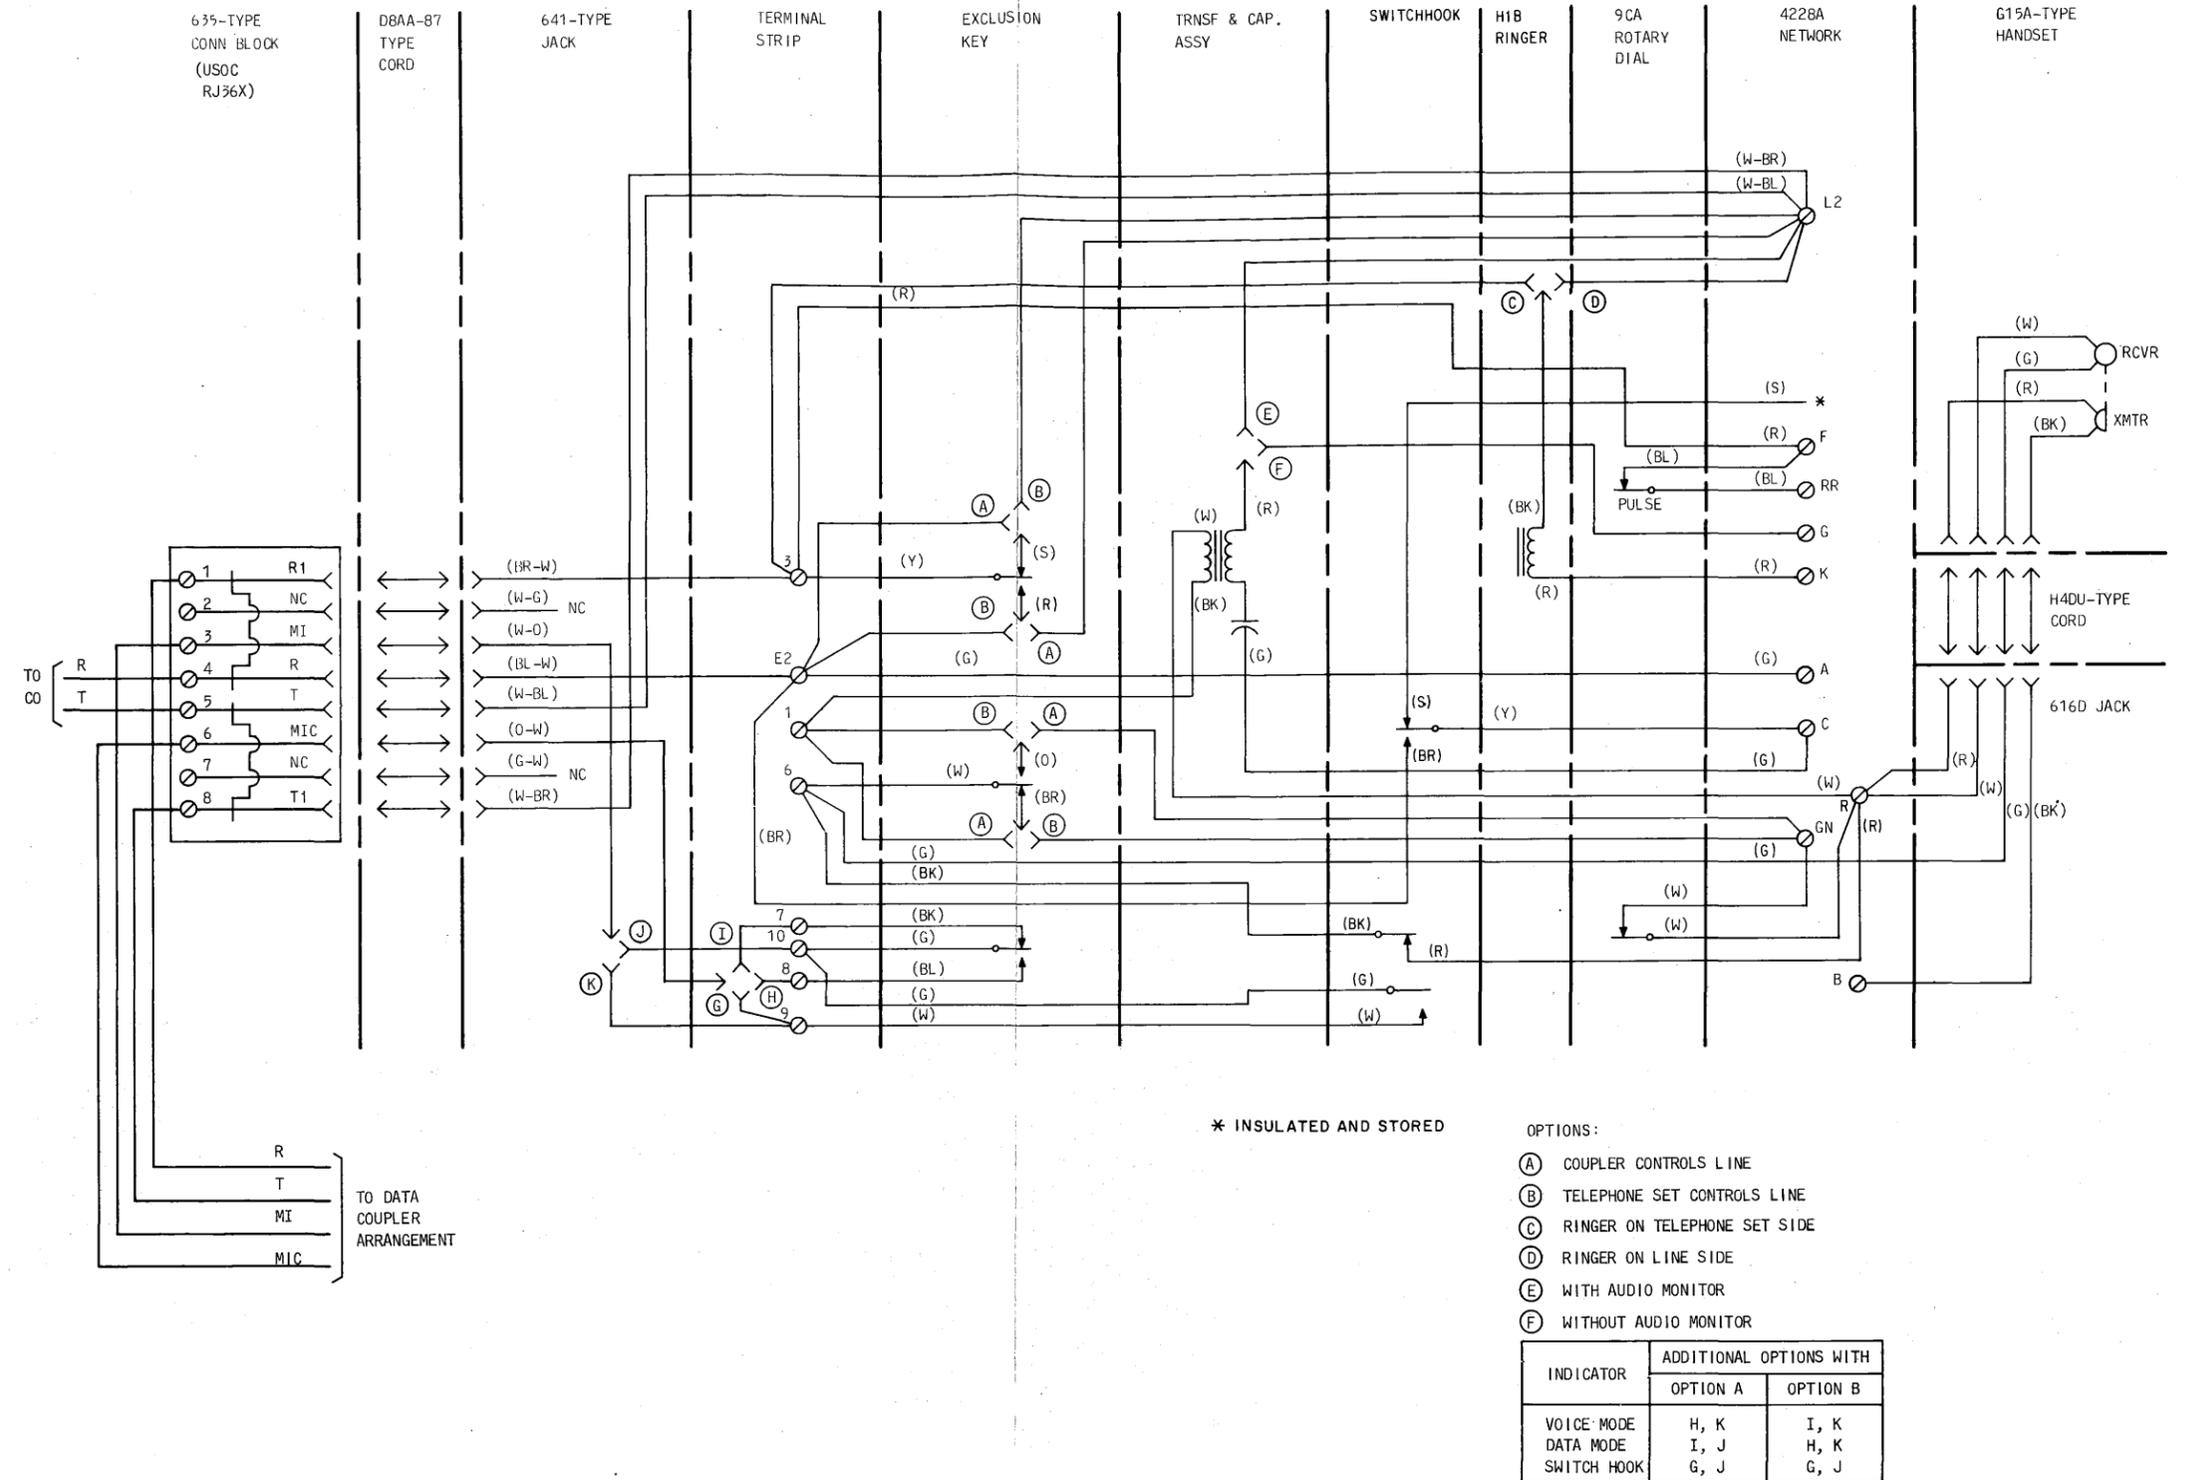

Fig. 8.1—Typical Connections for 1001D Data Coupler With 503CM Telephone Set
- (d) Fig. 8.1 and 9.1—added
3.02.2 ♦The 503CM and 2503CM telephone sets (Fig. 8.1 and 9.1) are the modular equivalent of the 503C and 2503C, respectively. MI connects to A and MIC connects to A1 in the data coupler arrangement.♦